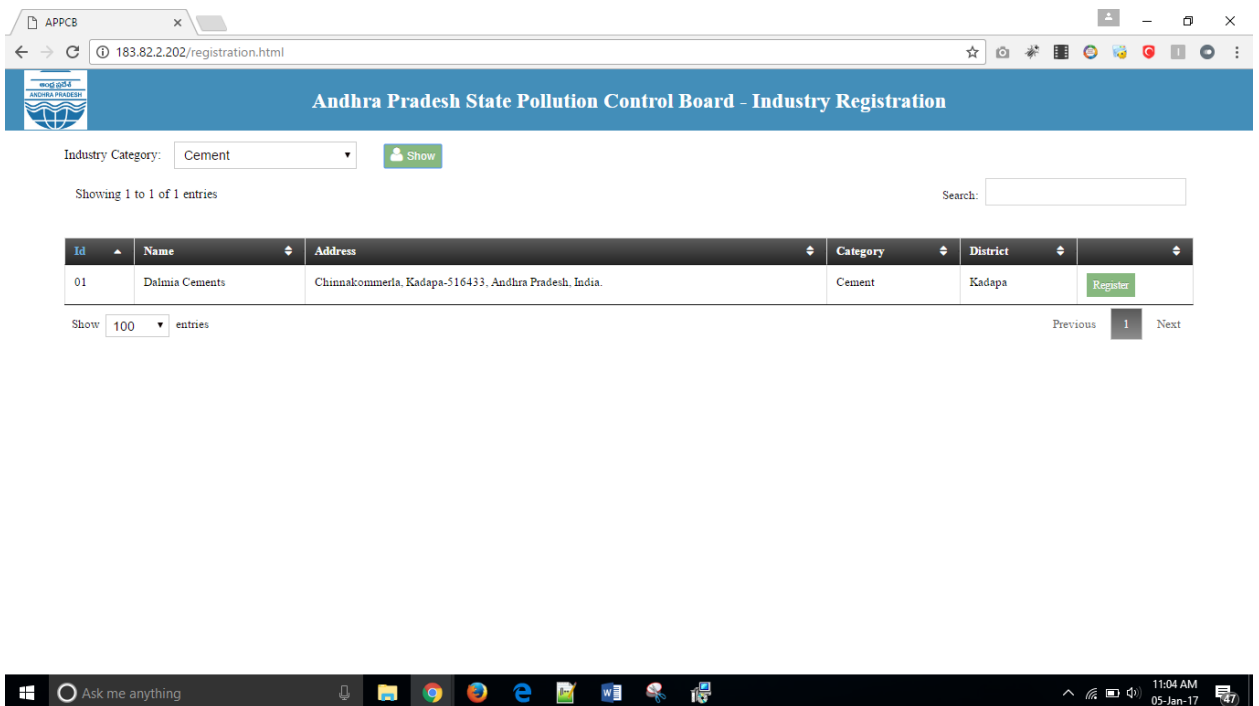

Fig 3: Industry List for chosen category Cement
- Among the Industries listed under the chosen Industry category, find your Industry and click on the Register Button seen at the right side. Shown in Fig 3. Industry List for chosen category